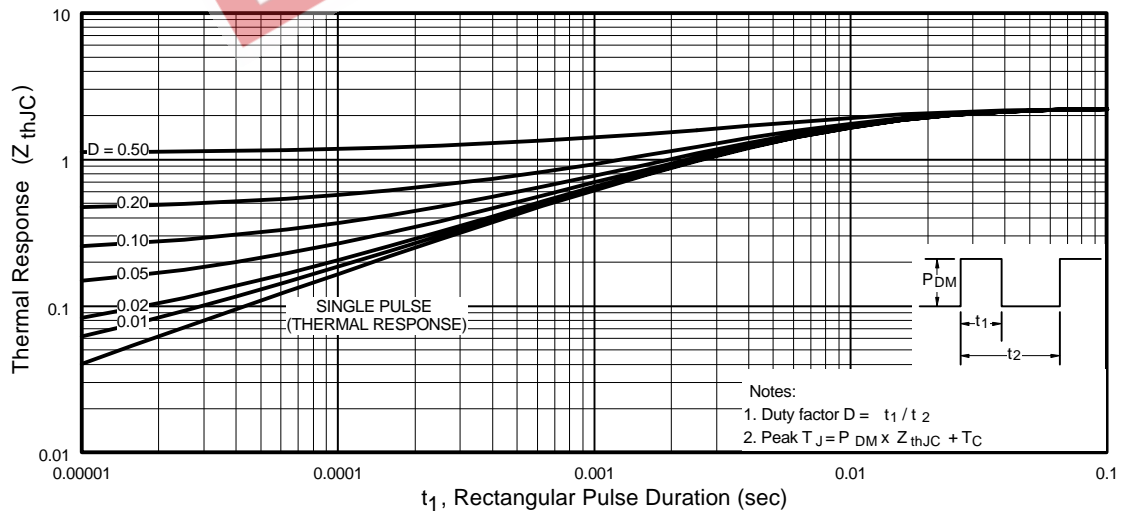

Fig 11. Maximum Effective Transient Thermal Impedance, Junction-to-Case
- ① Repetitive rating; pulse width limited by max. junction temperature. (See fig. 11)
② $V_{DD} = 15V$, starting $T_J = 25^\circ\text{C}$, $L = 470\mu H$